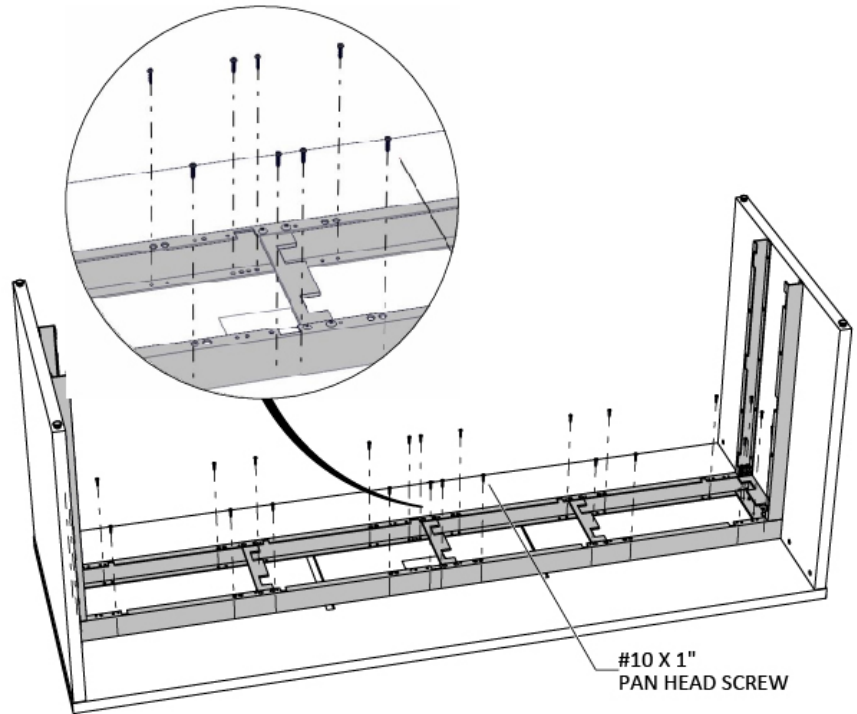

Figure 11
- 16.** Securely fasten the bridge to the surface, using #10 X 1" Pan Head Screws, (Figure 11).